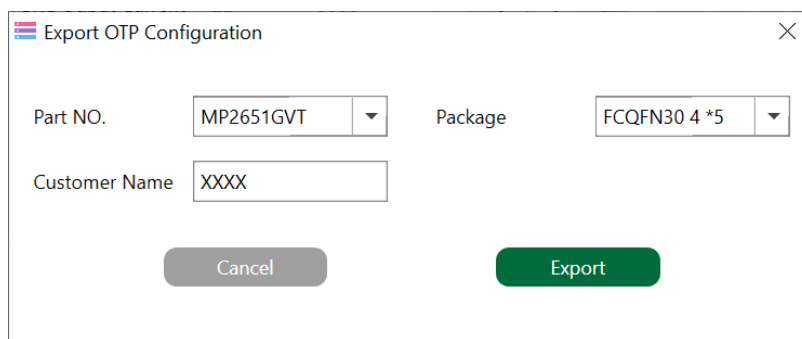

Figure 13: Click “Export” to Export the Input Parameter
7. Click “Export” to export the selected configurations (see Figure 13).